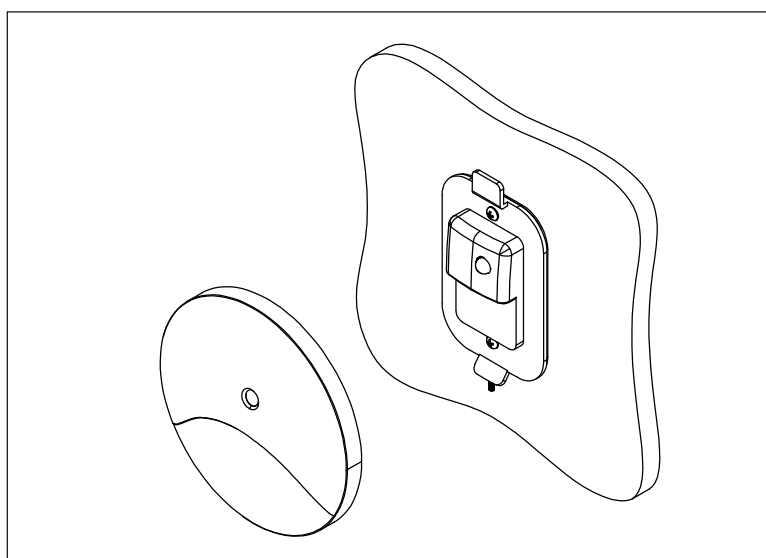

Figure 3
3. Attach Faceplate by aligning its groove to Driver Unit's catch tab (Fig. 3)